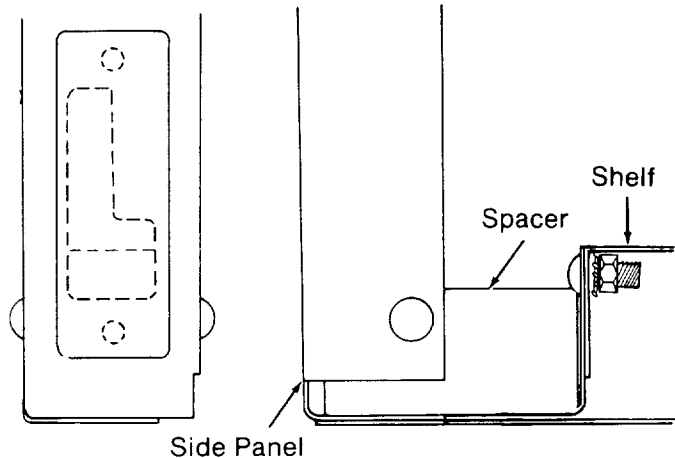

Fig. 21
26. Put a truss head bolt through the back of the *right spacer* and front edge of the *shelf*. (Figure 21)